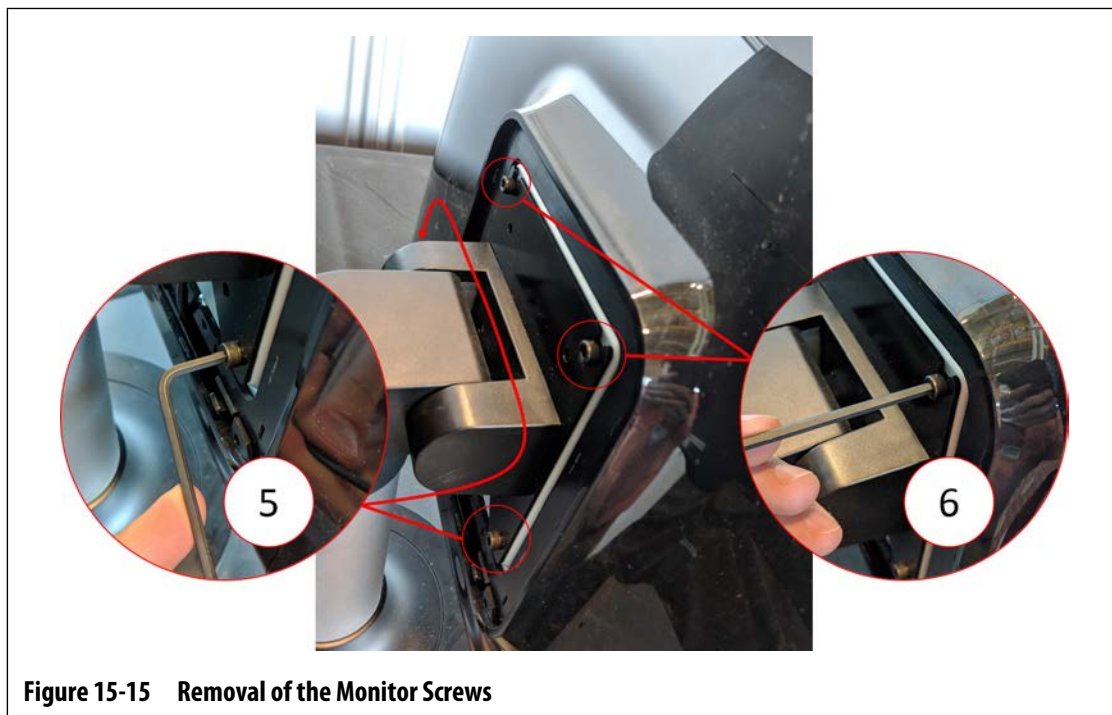

Figure 15-15 Removal of the Monitor Screws
8. Use a 4 mm right angle Allen key or hex wrench to remove the two bottom socket cap screws from the retaining plate that secures the touch monitor to the pedestal. Refer to number 5 in Figure 15-15.
9. Use a 4 mm right angle Allen key or hex wrench to loosen, but do not remove, the two top socket cap screws from the retaining plate that secures the touch monitor to the pedestal. Refer to number 6 in Figure 15-15.